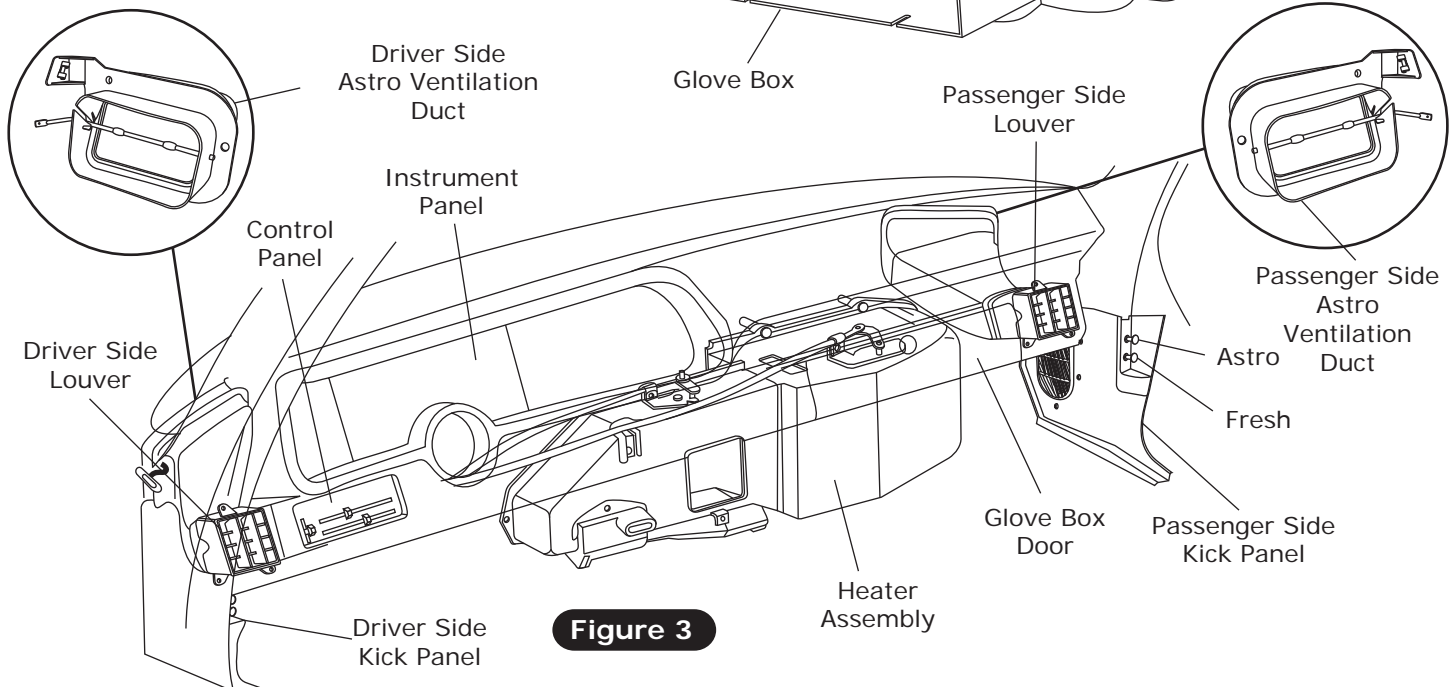

Figure 3
4. Heater blower motor assembly (discard). To remove the heater blower motor assembly (under hood) and the air distribution system (under dash), remove inner fender (See Figure 3, below).
1. Glove box door (See Figure 3, below).
3. Heater assembly and all related ducting (discard, retain screws) (See Figure 3, below).
4. Driver/passenger side louver outlets (retain). Instrument panel must be removed to get to left outlet and control panel (See Figure 3, below).
5. Control panel assembly (discard) (See Figure 3, below). Refer to control panel conversion kit instructions for installation of controls.
6. Remove passenger side kick panel (retain). Disconnect passenger side fresh air cable from panel (See Figure 3, below). Disconnect driver/passenger cable astro-ventilation ducting (discard).